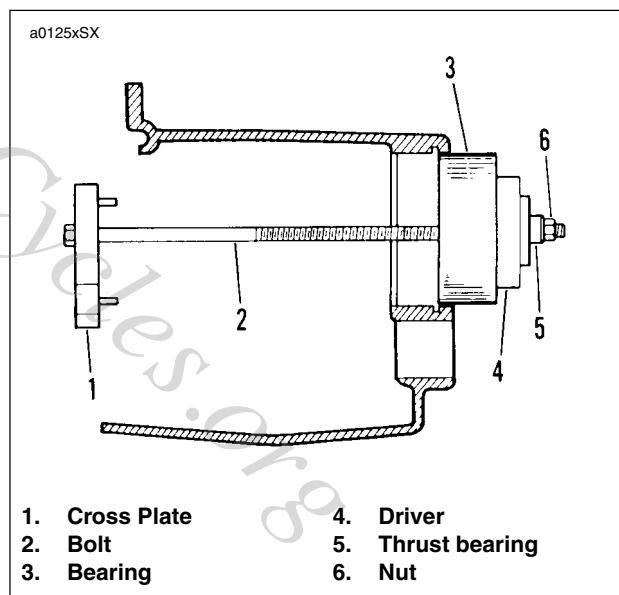

Figure 6-79. Installing Mainshaft Ball Bearing
2. See Figure 6-79. Insert bolt (2) through cross plate (1), new bearing (3), driver (4) and thrust bearing (5). Thread nut (6) on end of bolt. Tighten nut carefully until bearing is started in bore squarely. Tighten nut (6) until bearing is seated against shoulder in bore.